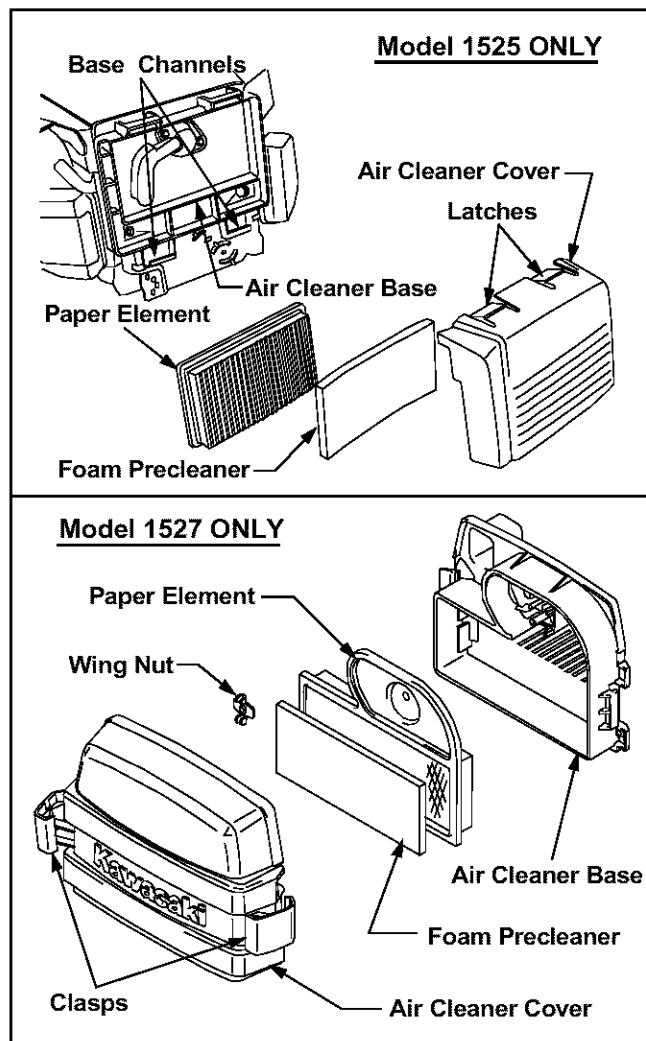

Figure 19
The engine is equipped with a replaceable foam pre-cleaner and paper air cleaner element. See Figure 19. Always examine the air cleaner **before starting the engine**. Check for a buildup of dirt and debris around
- Press down and hold the two latches on the top of the air cleaner cover while rotating the top of the cover away from the air cleaner base. Refer to Figure 19.
- Remove the paper element and pre-cleaner from the air cleaner cover. See Figure 19.
- Pull the two clasps away from the sides of the air cleaner cover; then unhook the clasps from the tabs on the air cleaner base. See Figure 19.
- Insert the two hooks on the bottom of the cover into the two channels of the air cleaner base. Refer to Figure 19.
- Position the air cleaner cover over the base and hook the clasps behind the tabs on the base. Refer to Figure 19.